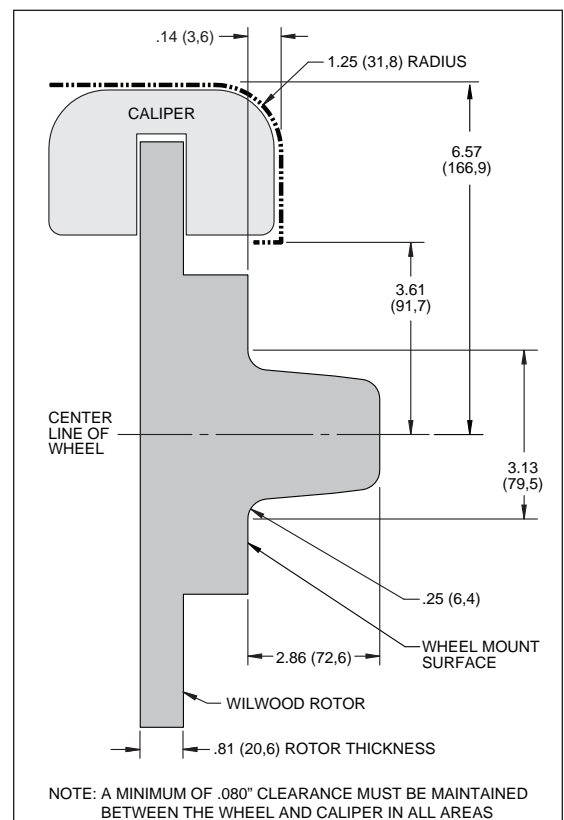

Figure 2. Wheel Clearance Diagram
- Review the Wheel Clearance Diagram (Figure 2, page 3) to verify that there is adequate clearance with the wheels you will be using with the installation.
- Verify wheel clearance utilizing Figure 2.
- Verify the new hub stud pattern in this kit matches the lug pattern of the vehicles wheels. CDP hubs have a 5 x 4.50" and 5 x 4.00" pattern. The 5 x 4.00" pattern does not guarantee fitment with all 5 x 4.00" wheels, either OEM or aftermarket. It is important that the center hole clearance be 3.13" or larger to clear hub snout in the kit, Figure 2.
- WARNING:** The wheel contact surfaces must seat completely on the face of the hub. If any contact surfaces overhang the outside diameter of the hub face, a 6.60" diameter x .20" thick steel spacer (item 22, Wilwood P/N 300-11961) MUST be used between the wheel and the hub.